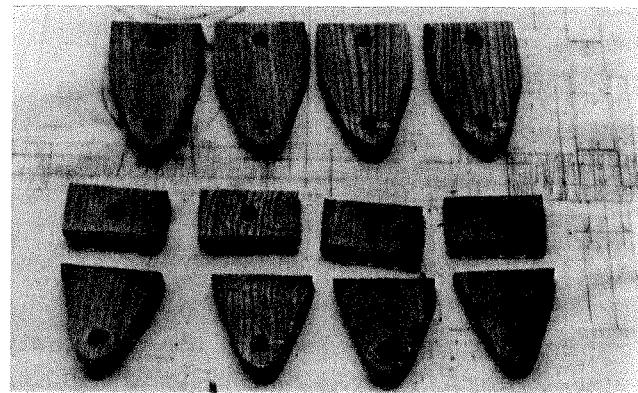

FIGURE 15-8
- 6** You should now have four complete shield shapes, each with two holes; four strips, each with a single hole; and four triangle shapes, each with a single hole (Fig 15-8). Set the four strips aside (two of these are used at a later stage), pair the one-hole plates up with the two-hole plates so bottom holes are aligned, and glue them together as shown (Fig 15-8).
6 You should now have four complete shield shapes, each with two holes; four strips, each with a single hole; and four triangle shapes, each with a single hole (Fig 15-8). Set the four strips aside (two of these are used at a later stage), pair the one-hole plates up with the two-hole plates so bottom holes are aligned, and glue them together as shown (Fig 15-8).